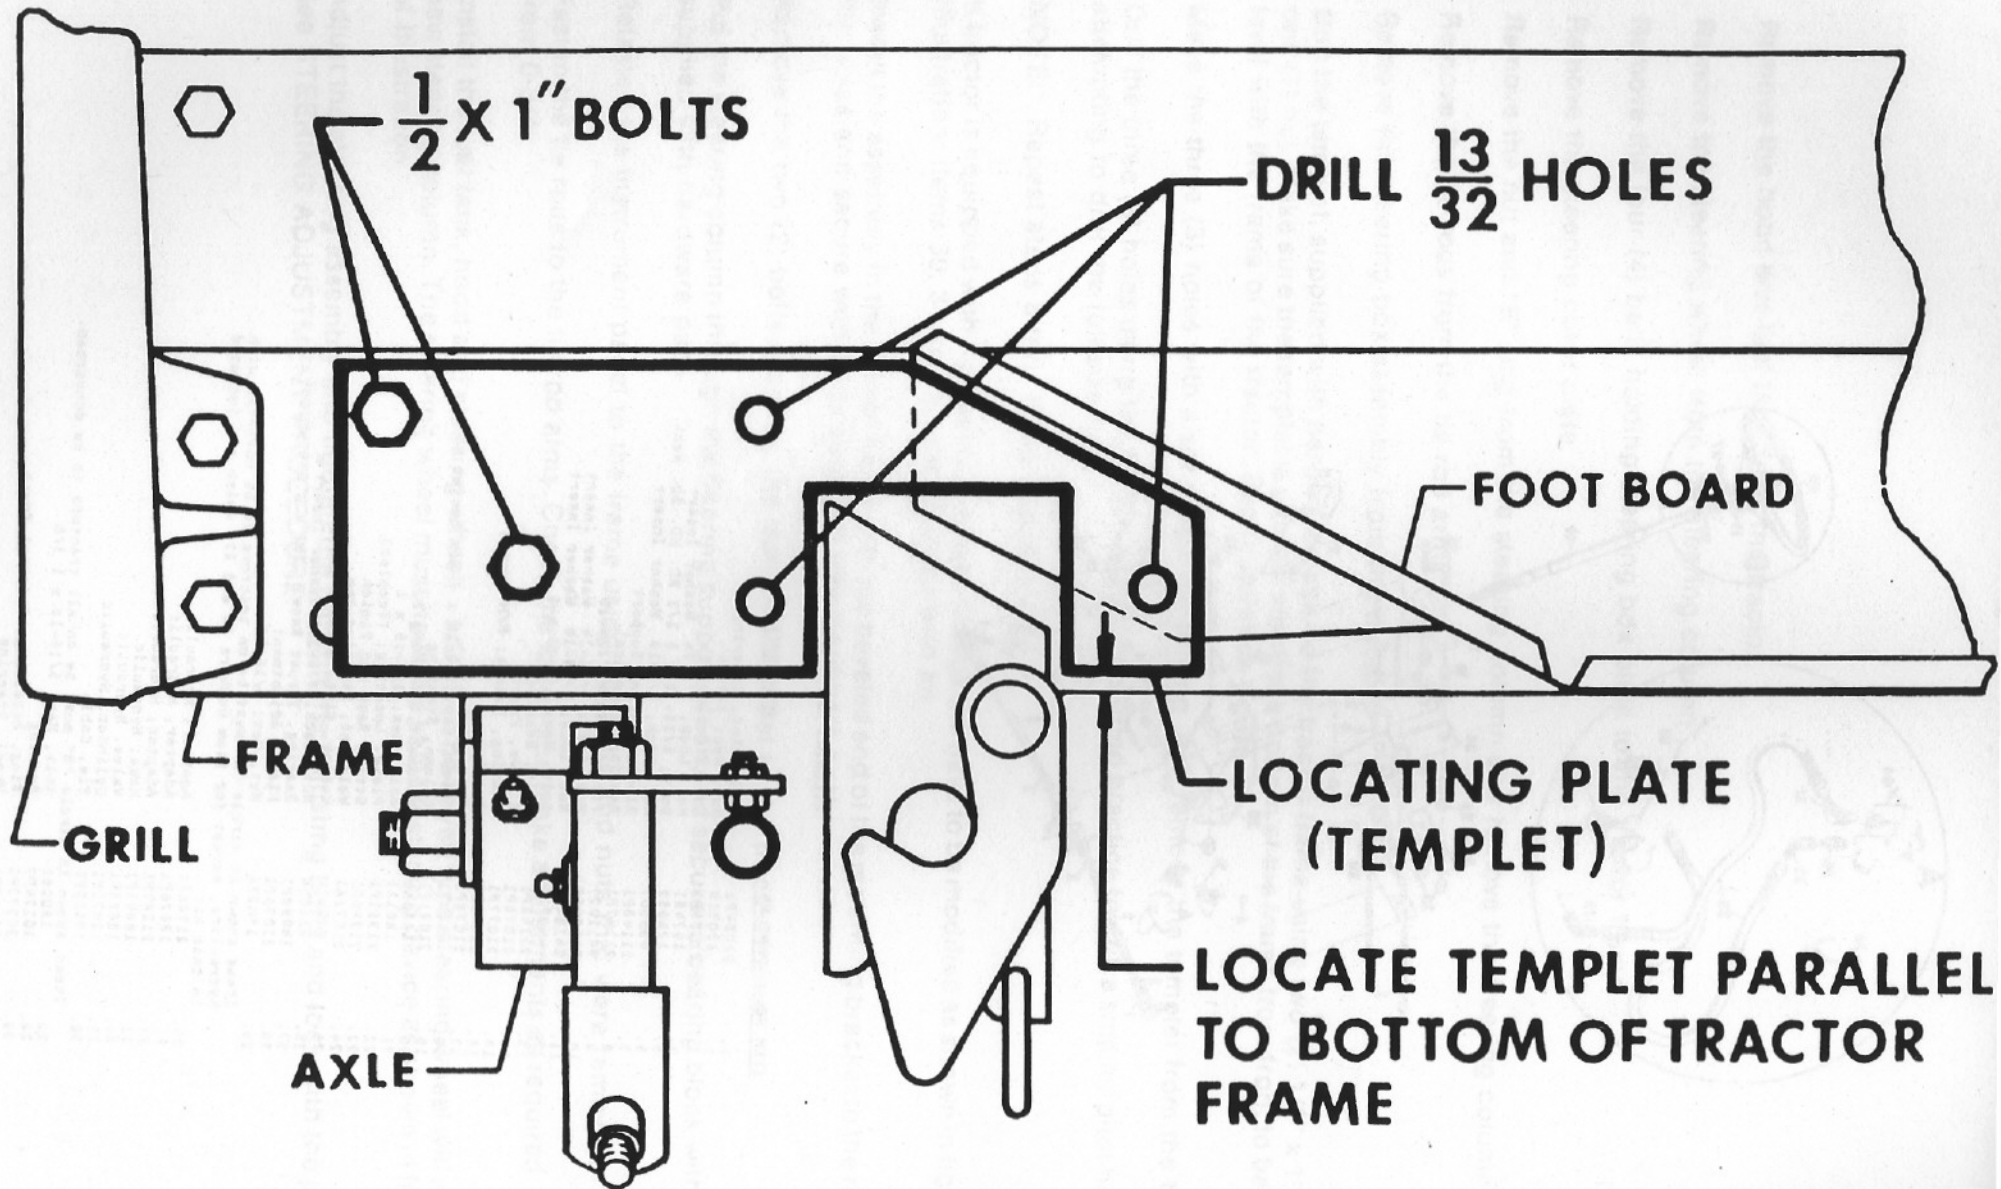

FIG 1
3. Remove the four (4) bolts holding steering box plate to the tractor frame.
8. Bolt the templet, supplied with hardware pack, to the tractor frame using two (2) 1/2" x 1" bolts and one (1) nut. Make sure the templet is parallel along the bottom of the frame from front to back. That is level with the frame of the tractor. See Illustration figure 1.
9. Make the three (3) holes with a set punch for drilling, and remove the templet from the tractor.
10. Drill the three (3) holes using the 13/32" drill bit. It is good practice to drill a smaller pilot hole before attempting to drill the full size hole.
13. Remove the two (2) bolts securing the instrument panel to the tractor frame.